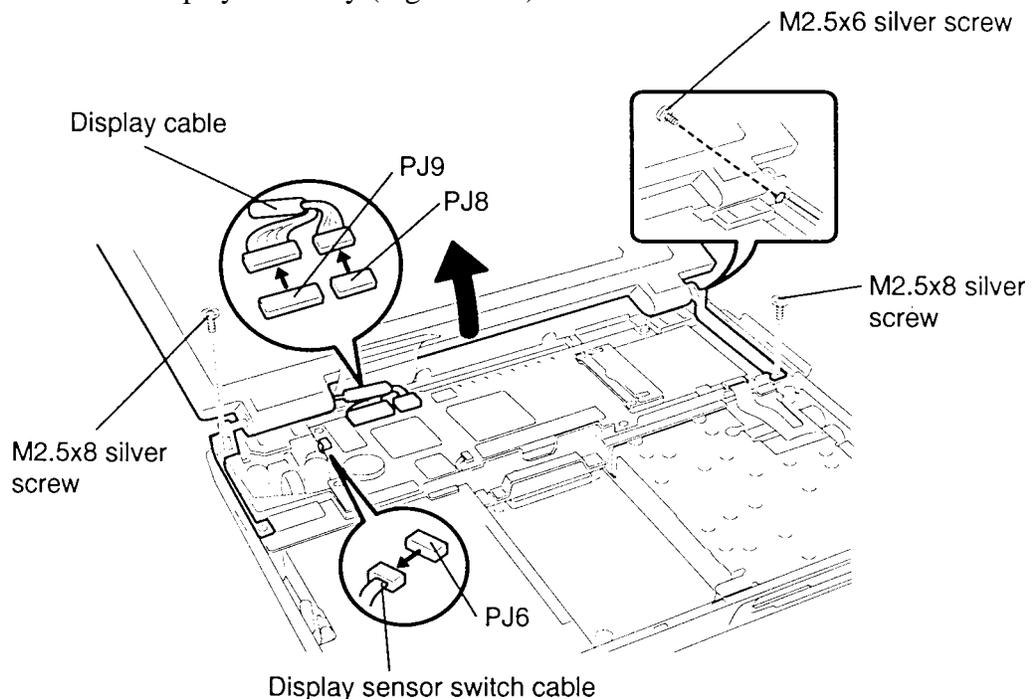

Figure 4-16 Removing the Display Assembly
7. Disconnect the **two display cables** from **PJ8** and **PJ9** on the system board (Figure 4-16).
10. Lay the display back fully, (put a book or small box behind the display to support it) and remove the **two M2.5x8 silver screws** on the display hinges securing the display (Figure 4-16).
11. Lift off the display assembly (Figure 4-16).
1. Place the **display assembly** on the computer aligning the brackets with the screw holes on the middle-frame assembly. Be sure to route the clear **plastic insulator** between the display assembly and the bottom chassis (Figure 4-16.)
2. Replace the **two M2.5x8 silver screws** on the display hinges to secure the display assembly (Figure 4-16).
3. Connect the **display sensor switch cable** to **PJ6** on the system board (Figure 4-16) .
4. Connect the **two display cables** to **PJ8** and **PJ9** on the system board (Figure 4-16).
5. Secure the **M2.5x6 silver screw** on the back of the computer (Figure 4-16).